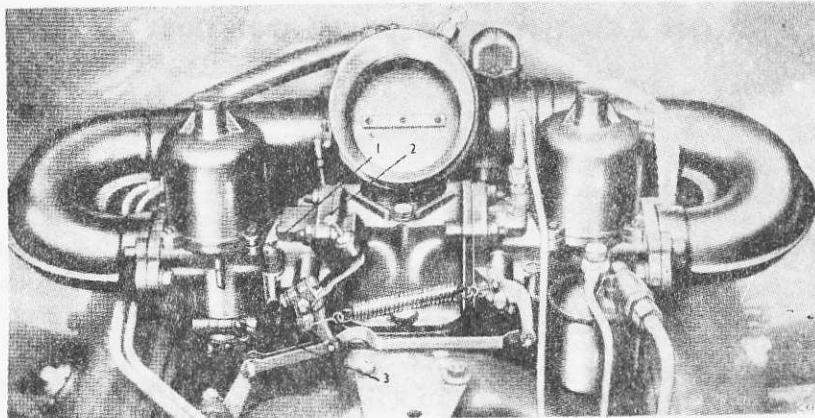

Fig. K3 (S) The carburetors
Screw down each idle bleed adjusting screw, shown in Figure K3 (S) of this Supplement, to the full extent of its travel, then unscrew $1\frac{1}{2}$ turns.
The mixture strength is regulated by the jet adjusting screw, shown in Figure K3 (S) of this Supplement, which should be manipulated until the jet is level with the top of the bore in which it is located. Then screw the adjusting screw two complete turns down.